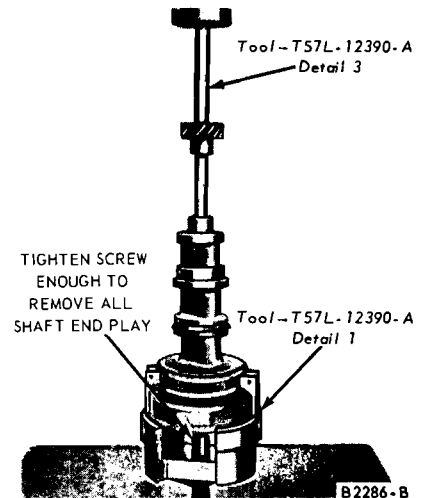

FIG. 13—Original Shaft and Gear Installation
8. Install the assembly in a press. Press the gear on the shaft (Fig. 13), using the marks made on the gear and shaft as guides to align the pin holes.